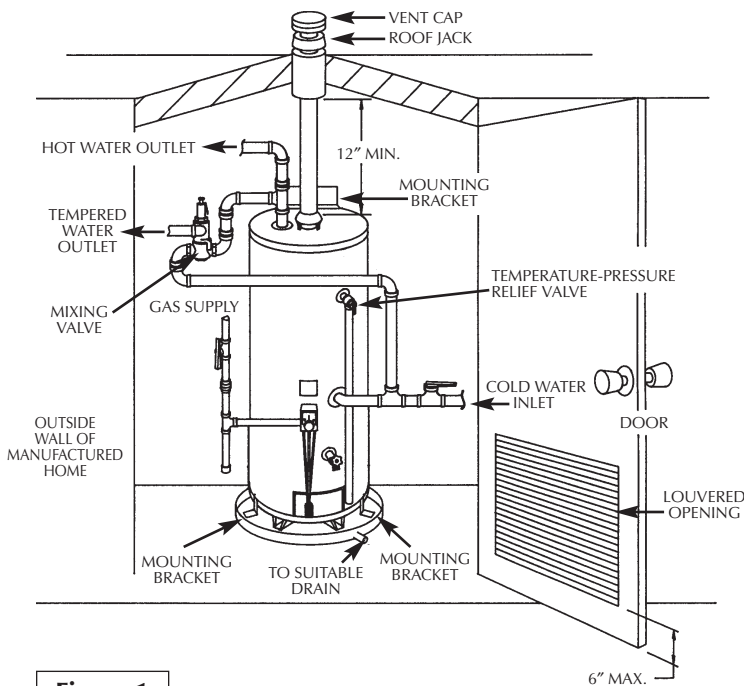

Figure 1
1. An enclosure with an exterior access door incorporating a single opening positioned a maximum of 6 inches above the lower edge of the access door and which may incorporate either 1/4 inch wire mesh or louvers. When 1/4 inch wire mesh is used, the size of the opening must be a minimum of 20 square inches. When the louvers are used, the area must be a minimum of 20 square inches. (See figure 1, page 6)
When a drain pan is required, an exterior door with louvered openings must be used as shown in figure 1, page 6.